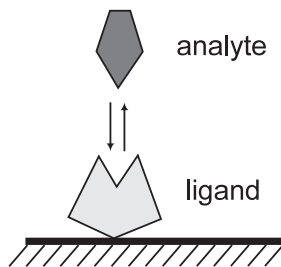

Figure 1. “Ligand” refers to the immobilized interactant and “analyte” refers to the other interactant present in the sample injected over the sensor surface.
- When molecular interactions are studied in Biacore, one of the interactants is immobilized on the sensor surface while the other is passed over that surface in solution. In Biacore terminology, ***ligand*** refers to the immobilized component and the interactant present in the sample injected over the surface is referred to as the ***analyte*** (Figure 1).